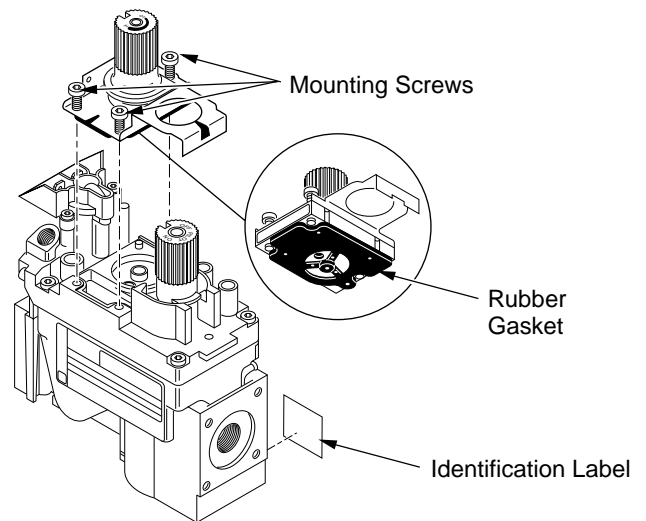

Figure 9 - Installing Pressure Regulator Assembly
2. Insure that the rubber gasket is properly positioned on the new pressure regulator assembly. Install the NG pressure regulator assembly to the valve using the new mounting screws supplied with the kit. Tighten screws securely (approximately 25 in-lbs.) (see Figure 9).
3. Install the identification label enclosed with the gas valve regulator to the valve body where it can easily be seen (see Figure 9).